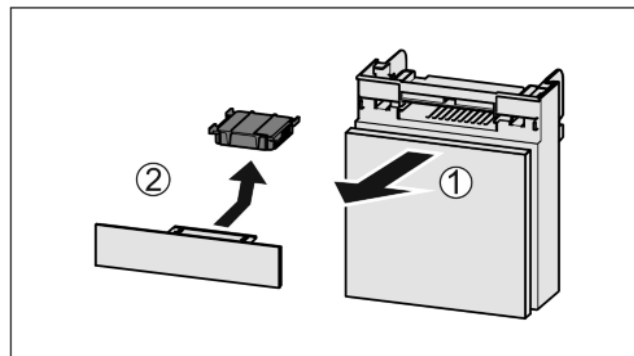

Fig. 51
- Pull out the compartment Fig. 51 (1).
- Remove the carbon filter Fig. 51 (2).